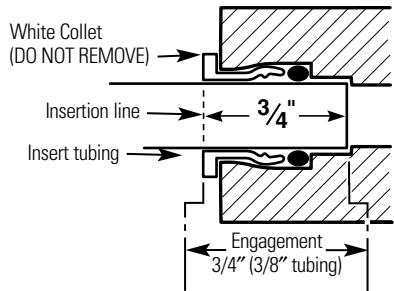

Fig. 7
3. Push the tubing firmly into each fitting on the manifold until the line is flush with the fitting collar. (If the tubing is removed, re-cut the end, measure, mark and re-insert). Tubing must be fully inserted to avoid leaks (Fig. 7). (**To remove tubing: Depress and hold white collet; pull tubing out to remove.**)